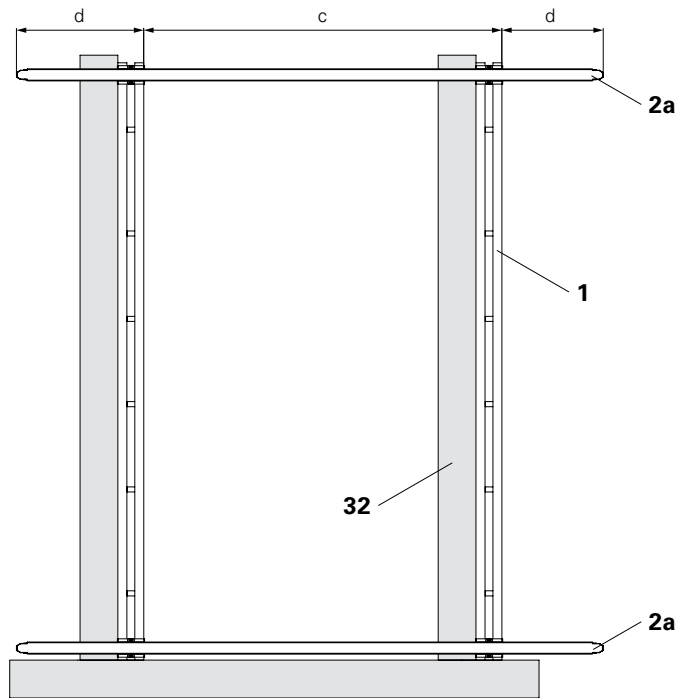
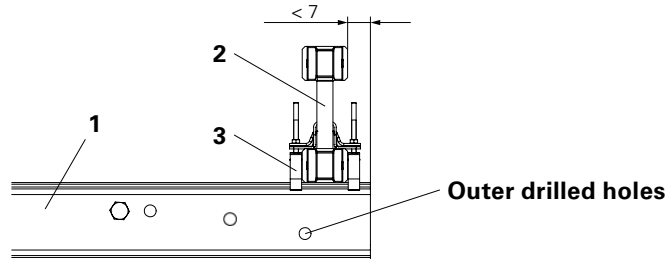

Fig. B2.01
Fig. B2.02
1. Align the Platform Beam BR (**1**) along the limit stop plank (**32**). The external holes lie below. (Fig. B2.01 + B2.02)
2. Place the two outer girders (**2a**) on the Platform Beam BR (**1**). The distance of the girder to the edge is max. 7 cm. (Fig. B2.02) The overhang d is the same on both sides. (Fig. B2.01)
4. Position and align all other girders (**2b**) according to project-specific specifications on the Platform Beams BR (**1**) and secure them using hook straps (**3**). (Fig. B2.02 + B2.03)